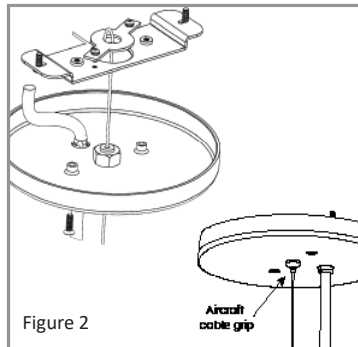

Figure 2
- After determining the exact desired length, loop the aircraft cable and screw plate down to lock cable between the plates. The aircraft cable can be adjusted in both directions to set the desired length by pulling the cable while pushing the aircraft cable grip at the same time. (Figure 2)